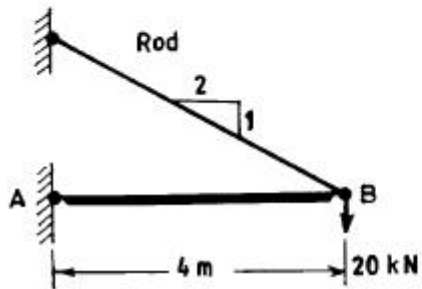

fig. 2
2. The capacity of the jib crane is given as 20 kN as shown in Fig. 2. What size of steel pipe AB should be used if thickness/diameter ratio of the pipe is $1/10$ and $E = 200$ GPa. Use Euler's formula with a factor of safety 2.5 and neglect the self-weight.